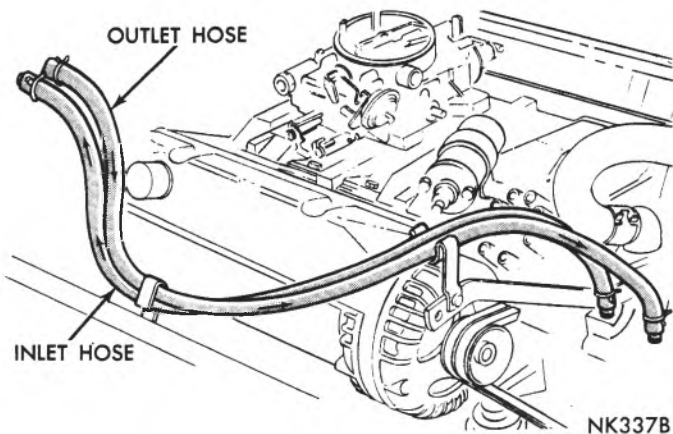

Fig. 3—Heater Hose Connections
(3) While holding housing in position, install locating screw. Then swing mounting bracket down onto stud on face of housing and install mounting nut.
(4) In engine compartment install four retaining nuts and tighten securely. (24 inch-pounds).
(5) Connect electrical connectors to resistor block and vacuum hoses to actuators (white hose to rod side of actuator).
(6) Plug antenna lead into radio and connect vacuum trunk lock hoses if so equipped.
(7) From engine compartment, remove plugs from core tubes and connect hoses to heater (Fig. 3).
(8) Fill cooling system and connect battery negative cable.
(9) Start engine, operate heater and bleed air from system.